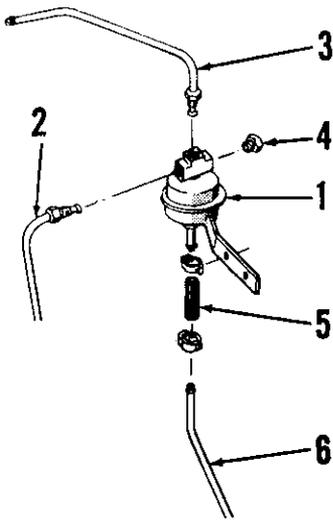
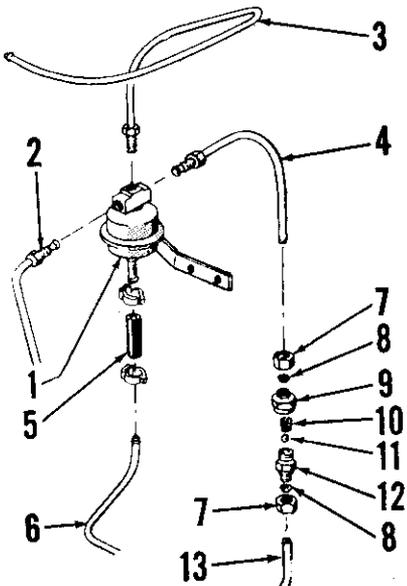

Fig. 144—View showing Thermostart reservoir and fuel line connections for models with C.A.V. fuel injection pump.
Fig. 145—View showing Thermostart reservoir and fuel line connections for models with Simms fuel injection pump.
Fig. 143—Cross-sectional view of diesel Thermostart unit (optional) that is located in intake manifold. Refer to Figs. 144 and 145 for fuel reservoir and fuel line connections.
162. Refer to Fig. 143 for cross-sectional view of the Thermostart unit which is located in the engine intake manifold. The fuel inlet (F) is connected to a small reservoir (see Figs. 144 and 145). In operation, turning the key switch to either "HEAT" or "HEAT-START" position connects Thermostart wire (W—Fig. 143) to battery heating the heater coil (HC) and ignition coil (IC). The hot coils react to pull the valve stem (VS) away from valve ball (VB) allowing ball to unseat and fuel to flow through the unit, where it is heated and ignited, and into the intake manifold.
For connecting fuel lines to Thermostart unit and reservoir, refer to Fig. 144 for models with C.A.V. fuel injection pump or to Fig. 145 for models with Simms fuel injection pump. NOTE: When diesel fuel lines have been disconnected, always make certain that fuel is present at the Thermostart fuel inlet (F—Fig. 143) before tightening the connection at that point. Any attempt to operate the Thermostart unit without fuel available may cause failure of the unit allowing fuel oil to leak into the intake manifold.